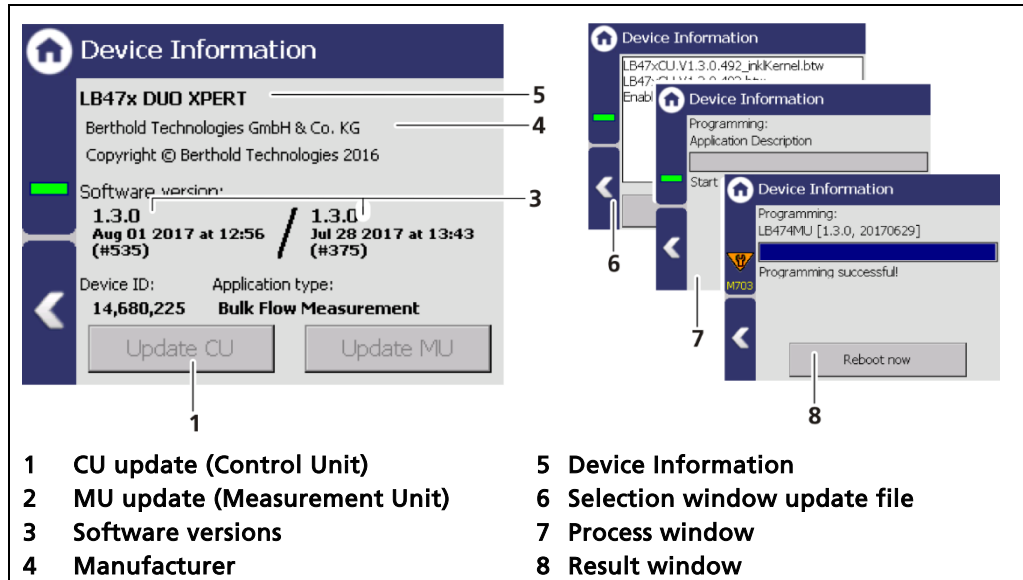

Fig. 37 Device information
3. The USB storage device is recognised by the system after a few seconds and the <CU Update> (Fig. 37, item 1) button can be clicked.
4. Click on the button <CU Update> (Fig. 37, item 1).
3. The USB storage device is recognised by the system after a few seconds and the <MU Update> (Fig. 37, item 1) button can be clicked.
4. Click on the button <MU Update> (Fig. 37, item 1).